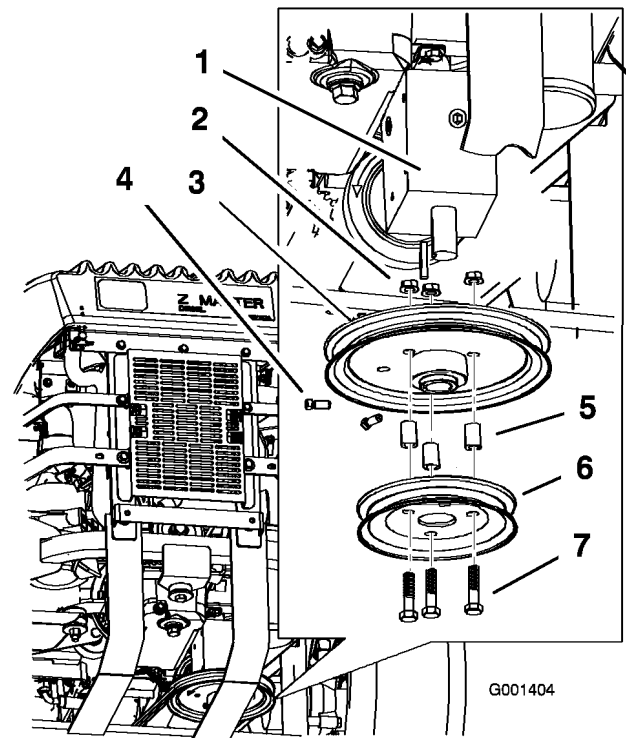

Figure 1
1. Remove the mower belt from the gearbox pulley assembly (Figure 1).
3. Install the bagger drive pulley to the new gearbox pulley with 3 bolts ($3/8 \times 1-3/4$ inches), 3 spacers, and 3 flange nuts ($3/8$ inch) (Figure 1). This hardware is supplied with the bagger.
4. Install the gearbox pulley and bagger drive pulley to the gearbox with 2 set screws and a square key (Figure 1). The pulley center hub needs to be flush with the end of the gearbox shaft.
5. Install the mower belt back onto the gearbox pulley (Figure 1).